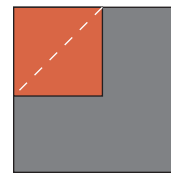
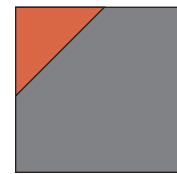

Fig. 2
Fig. 3
1. Place (1) 5" Fabric B square on the top left corner of (1) 8 ½" Fabric A square, right sides together (Fig. 2). Sew across the diagonal of the smaller square from the upper right corner to the lower left corner (Fig. 2). Flip open the triangle formed and press. Trim away the excess fabric from behind the triangle ¼" away from the sewn seam (Fig. 3).